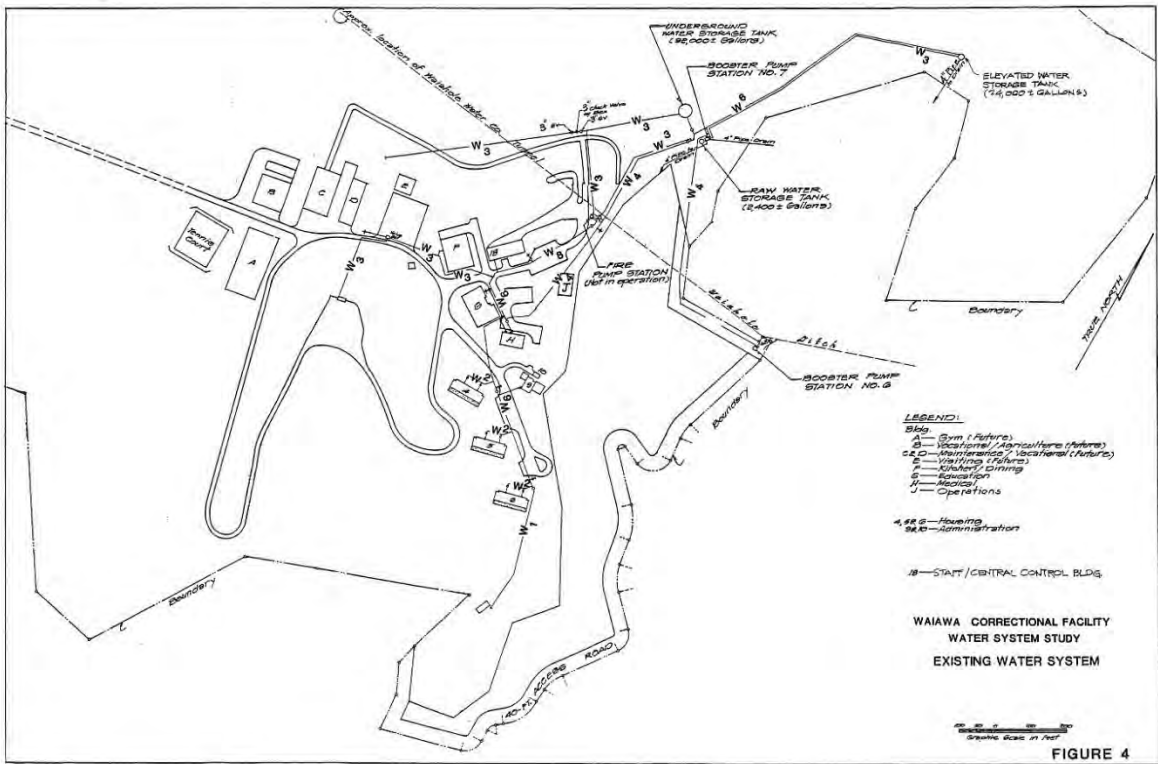

Figure 1: Water system circa 1989. “Boundary” shown on this map is not consistent with TMK boundary (Figure 2).
- 1.2.1. **Pump #6** withdraws raw water from the Waiāhole Ditch. While the pump itself appeared to be in good condition, it is short-cycling and risks burn-out because the receiving tank (~2,000 gallons) is too small. GMP is recommending it be replaced with a larger tank. In discussions with WCF, they are considering repurposing an existing underground tank with about 92,000 gallon capacity to serve as the receiving tank1. See Figure 1.